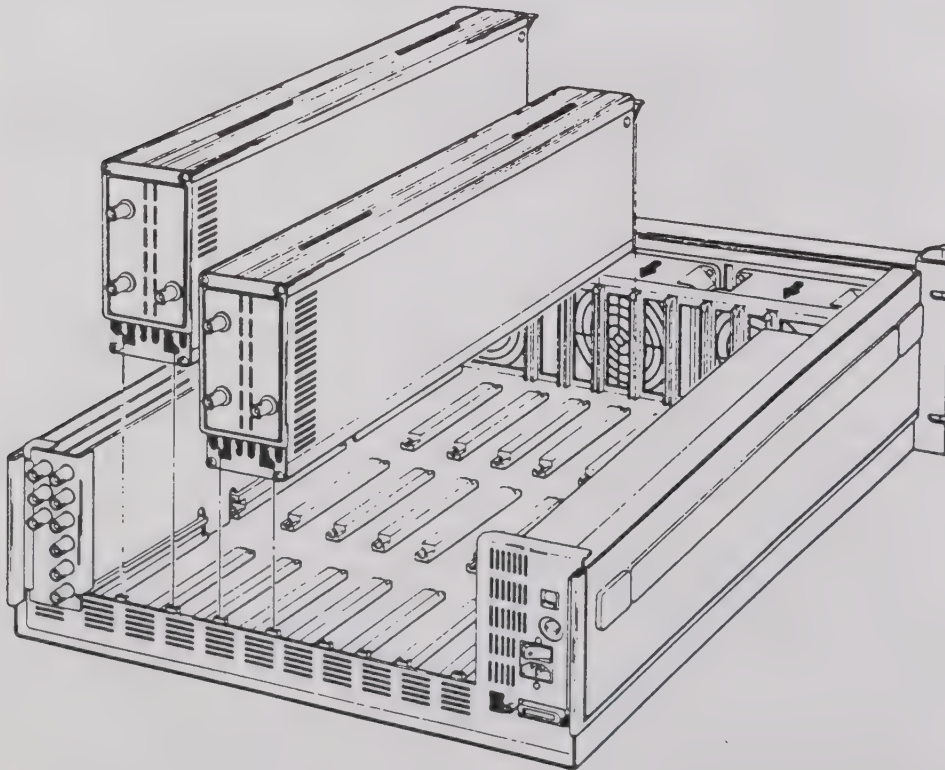

Figure 2-5. Module Installation
2. Place the module into the channel slots as illustrated in figure 2-5*. When inserting the module into the slots ensure the module guides slide into the top chassis alignment guides at either end of the module. Before setting the module in its channel slot visually verify correct positioning.